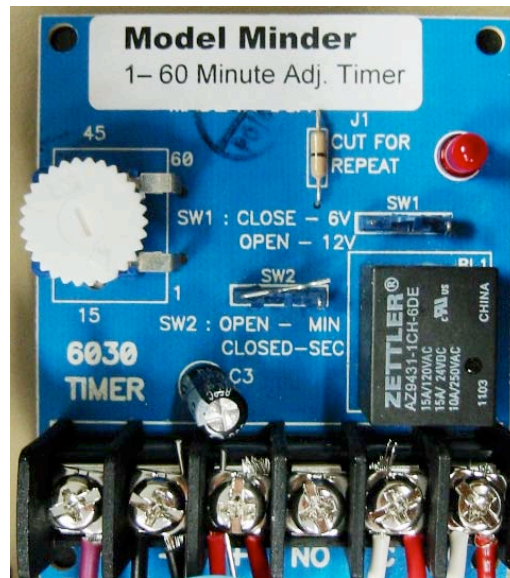

Figure 4.1: Timer Settings
- a. With front cover of ModelMinder removed, adjust timer up to 60 minutes based on the desired lighting control time for the ModelMinder. [Note: Recommended time is 15 Minutes] (Figure 4.1,2)